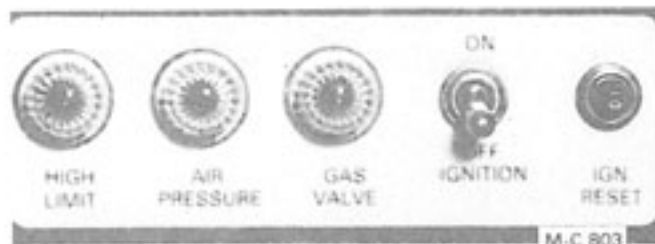

Figure 34
8. If after several attempts for ignition there is still no flame, push the 0.1 (1/10th) amp. ignition reset button (circuit breaker) on the control panel, see Figure 34. This circuit breaker protects the ignition board from heat build up due to repeated ignition attempts.
1. Push the ignition reset button (0.1 (1/10th) amp., circuit breaker) on the control panel in, see Figure 34. The circuit breaker protects the ignition board from heat build up due to repeated ignition attempts.